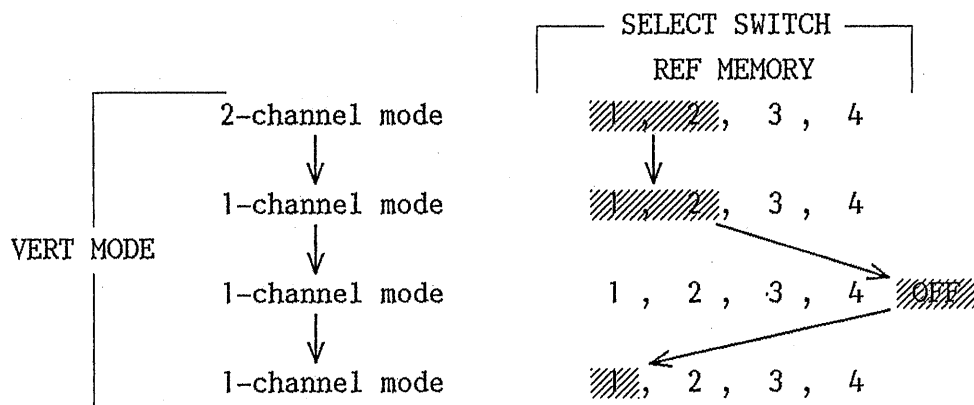

Figure 5-2. Relationship Between Vertical Channels and Reference Memory Units
The reference memory units are assigned as selected by the REF MEMORY switch (46) to the channels selected by the VERT MODE switch (39). Indication of memory assignment remains unchanged even when you have changed the number of channels with the VERT MODE switch (39). As you press the REF MEMORY switch (46) again, the reference memory is turned off. As you press the switch once more, the reference memory units are assigned to the channels you have selected. (See Figure 5-2.)